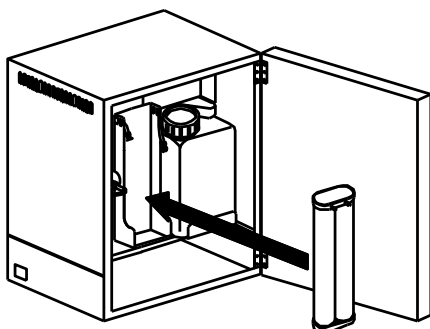

Fig.1
3. Place the ion exchange resin cartridge taken out on the receiver within the unit. (See Fig.1.)